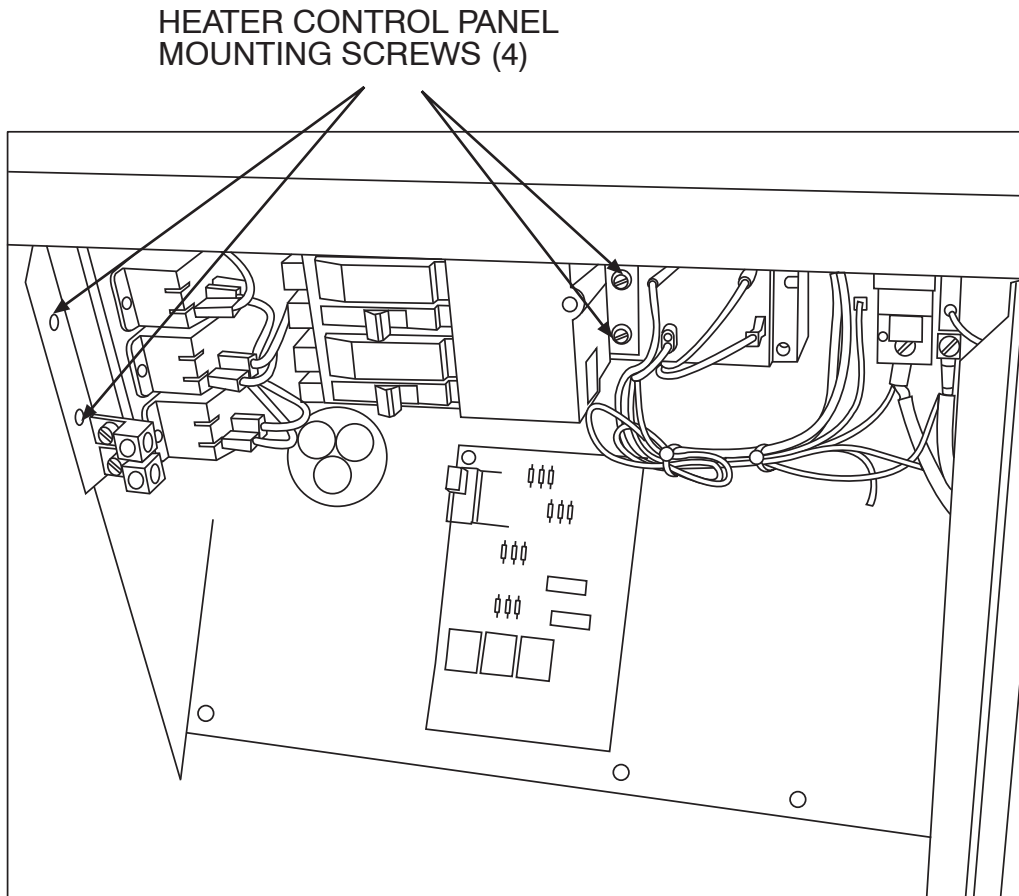
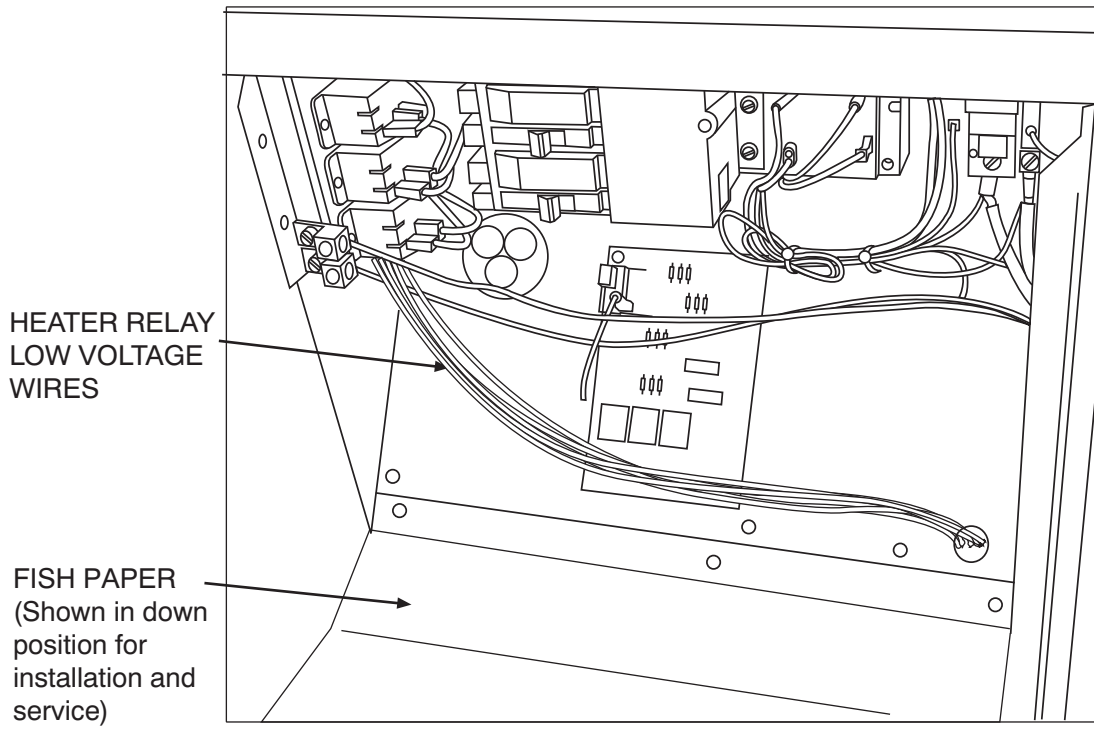

Fig. 6 - Heater Control Panel Installation
Fig. 7 - Heater Low Voltage Connection
- Rotate heater control panel into unit control box area and locate it into top left corner of control box; secure heater control panel to unit control box with (4) screws provided (See Fig. 6).
- Open flexible “fishpaper” insulation cover provided with unit control box and route heater low voltage wires along the bottom of the unit control box. Route low voltage leads from heater relay(s) through hole in unit control box and into low voltage splice box. (See Fig. 6 and Fig. 7.) dress wires and secure them to existing unit control wires with wire ties provided .